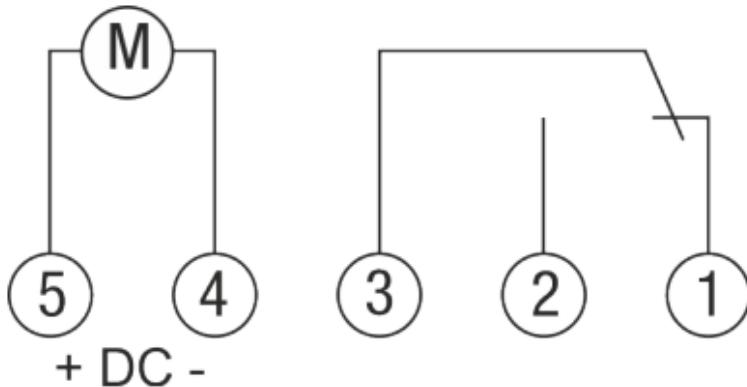

Fig. 6: BG1Q circuit diagram
12. Insert the connection wires into the corresponding terminals in accordance with the relevant wiring diagram (A = application/connected load; S = supply voltage; N = neutral conductor; L = live conductor) (Fig. 6).